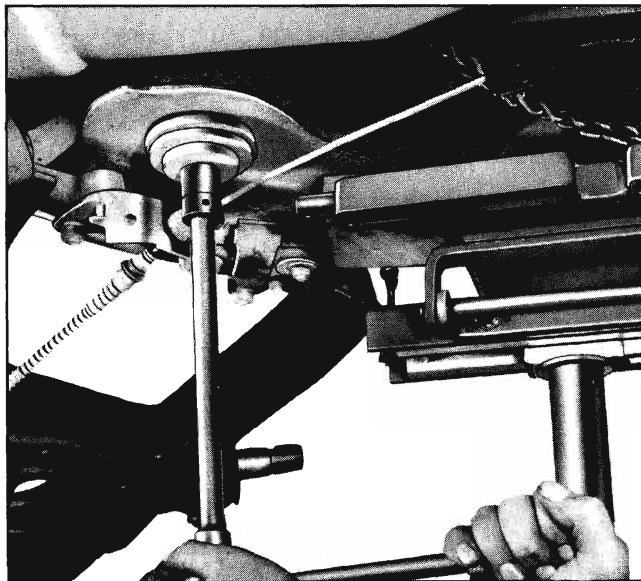

Fig. 3-38 Removing Rear Crossmember Mounting Bolt (Forward)
6. Remove two bolts on each side, connecting crossmember to body (Figures 3-38 and 3-39).